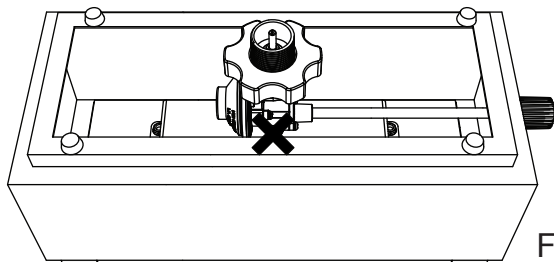

Figure 1
- 4, Please refer to the diagram for proper installation (Figures 1 and 2).
- 3, Apply the leak detection check solution on all “X” locations (Figures 1 and 2).